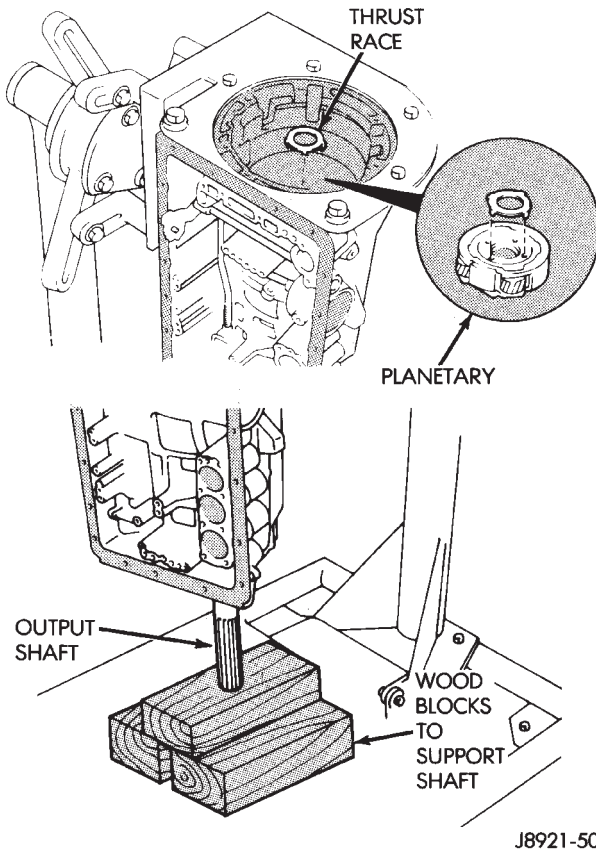

Fig. 35 Relieving Load On Planetary Snap Ring
(43) Remove planetary thrust race (Fig. 35).
(44) Relieve load on planetary snap ring as follows: Loosen transmission holding fixture. Turn transmission over and allow output shaft to support transmission weight. Place wood blocks under shaft to protect splines (Fig. 35).